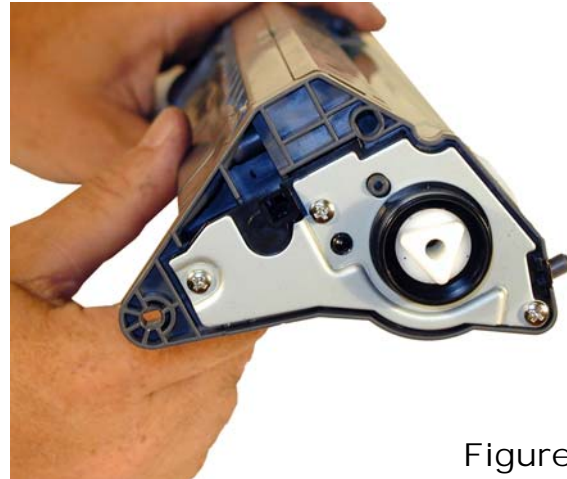

Figure 41
33) Remove the 3 screws on the opposite side plate. Note that these screws are larger than the drum axle plate screws. See **Figures 41 & 42**